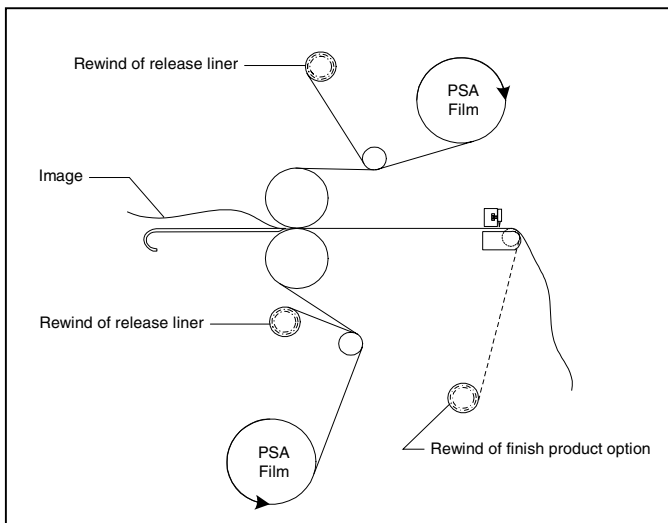

Fig. 34
TIPS FOR PSA ENCAPSULATION (Figure 34)
1. Load the laminator as illustrated in Figure 34.